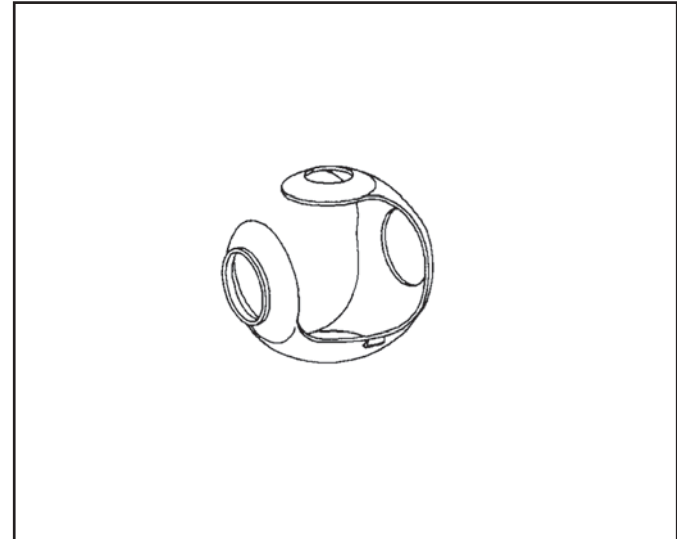

Figure 159
3. Remove the plastic side gear liner from the housing (See Figure 159).